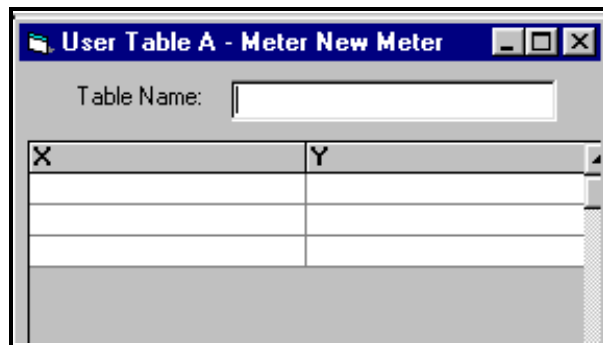

Figure 56: User Table Window
2. Click on “*User Tables*,” and then double-click on the desired table. The right side of the screen appears similar to Figure 56.